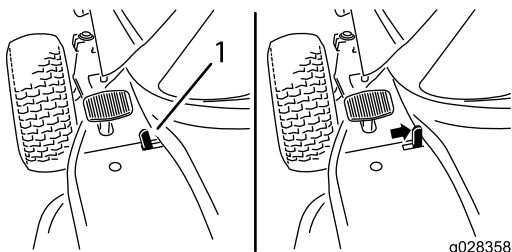

Figure 6
2. Move the parking brake lever to the right (Figure 6).
2. Move the parking brake lever to the left (Figure 6).